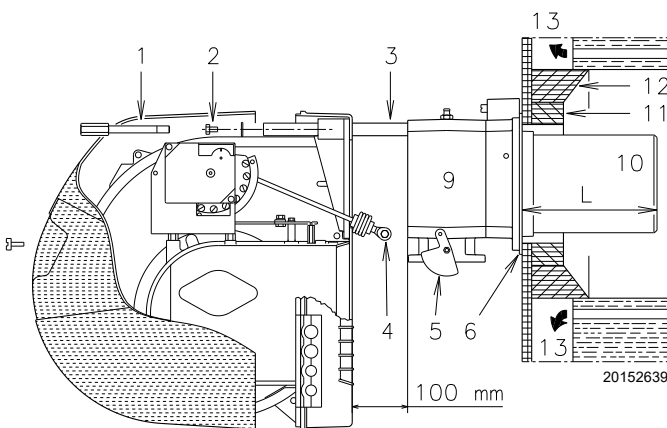
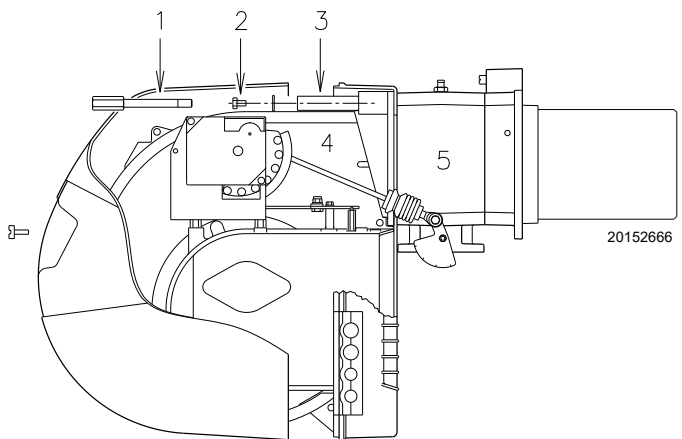

Fig. 12
Fig. 18
For boilers with a water-cooled front piece, a refractory lining 11)-12)(Fig. 12) is not necessary, unless expressly requested by the boiler manufacturer.
- Separate the combustion head from the rest of the burner (Fig. 12):
- Fix the flange 9)(Fig. 12) to the plate of the boiler interposing the insulating flange gasket 6)(Fig. 12) supplied with the unit.
- Once you have finished adjusting the head, reassemble the burner 4)(Fig. 18) on the guides 3)(Fig. 18) at about 100mm from the pipe coupling 5)(Fig. 18) - burner in the position shown in Fig. 12 - insert the cable of the probe and the cable of the electrode, then slide the burner as far as the pipe coupling, burner in the position shown in Fig. 18.
- Refit screws 2)(Fig. 18) on guides 3)(Fig. 18).
- Fix the burner to the pipe coupling with the screw 1)(Fig. 18).